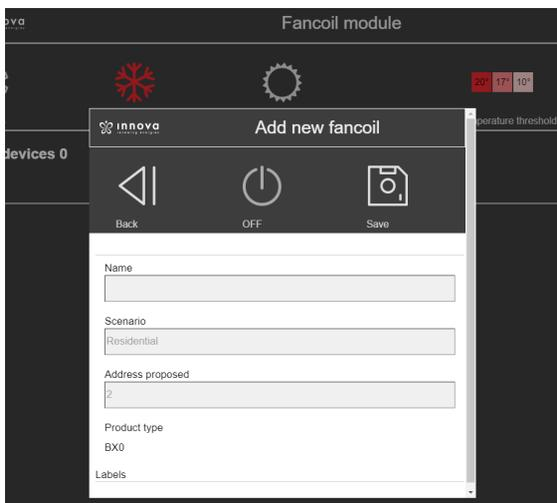

Figure 8.10
5. The "ADD FANCOIL WITH ADD.1" screen will appear. (Figure 8.10) In the fields indicated you can give a name (for example, Kitchen), select the scenario and set the desired address (see previous par. for the scenarios, page 21)